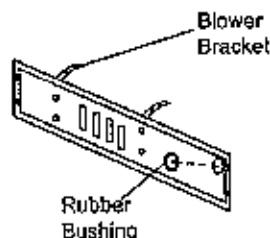

Figure 10-F Installing Bushing
- Attach the rubber bushing provided in blower on the hole upright position of the Knock-out (see Figure 10-F).